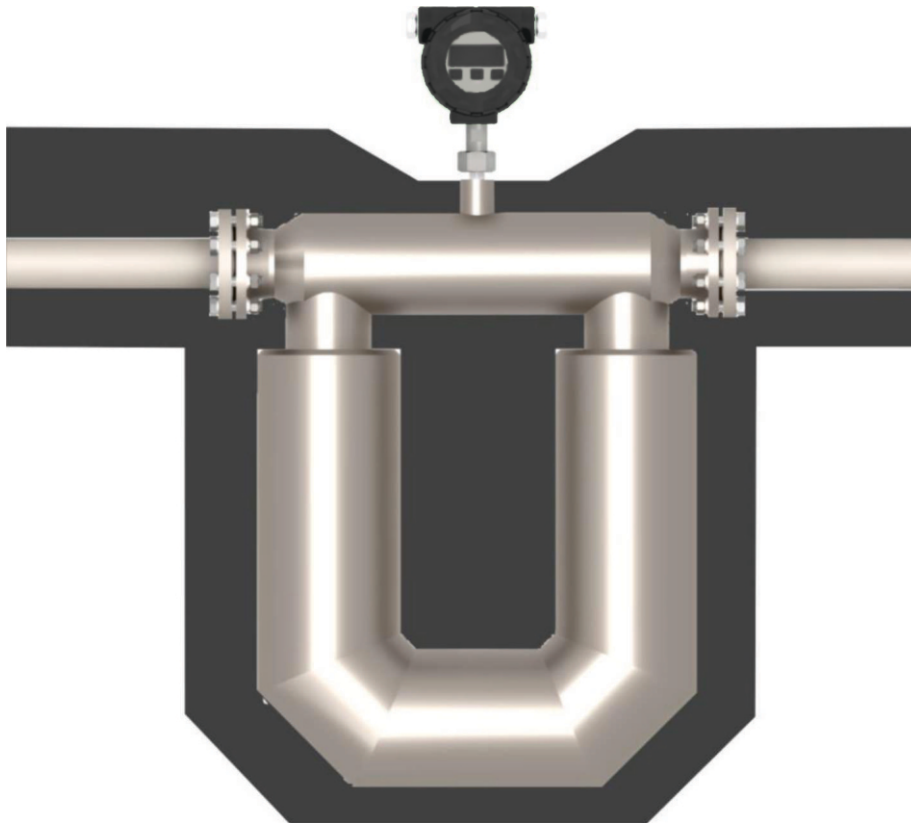

Figure 2.8 – Recommendation for thermal insulation of the flowmeter
2.3.5 Thermal insulation If thermal insulation of the pipeline and the flowmeter is necessary, see the recommendations in Figure 2.8.